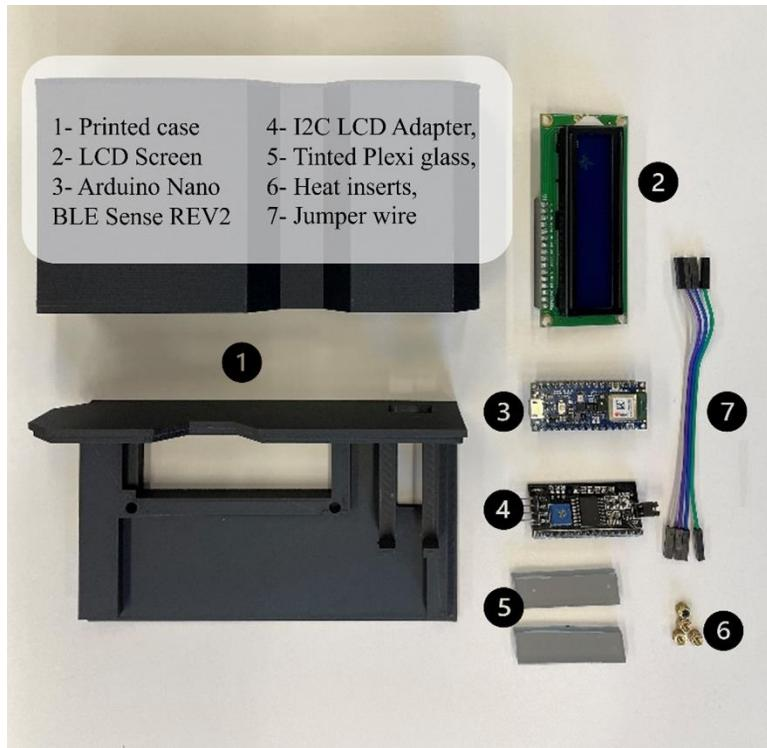

Figure 1.2- Gathered components.
- 1) Gather the parts as shown or see bill of materials as shown in Figure 1.2.